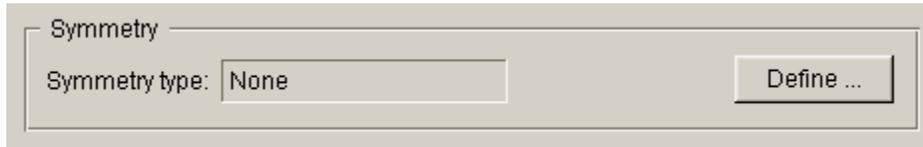
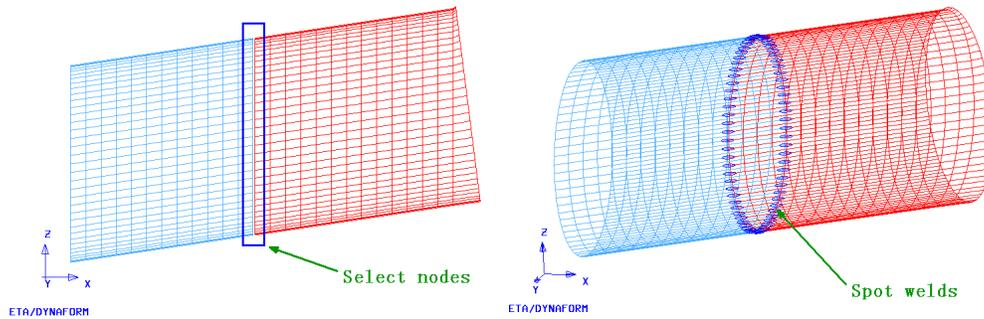

Figure 8.2.34 Symmetry field
Figure 8.2.40 Define Weld
This function allows the user to create symmetry condition for the blank to reduce simulation time. The user may define either  $\frac{1}{2}$  or  $\frac{1}{4}$  symmetrical condition along the line of symmetry of blank.  $\frac{1}{2}$  and  $\frac{1}{4}$  blank mesh is required for applying  $\frac{1}{2}$  and  $\frac{1}{4}$  symmetrical conditions, respectively. By default, None is displayed in the field of Symmetry type illustrated in Figure 8.2.40, indicating no symmetry condition is applied to blank. The user may click **Define ...** button to display the SYMMETRY PLANE dialog box illustrated in Figure 8.2.34.
**INPUT...:** The user may click this button to select node pair. From the displayed SELECT NODE PAIR dialog box, select two rows of nodes required for definition of weld line. After selecting the nodes, weld as illustrated in Figure 8.2.40 is defined between nodal pairs.